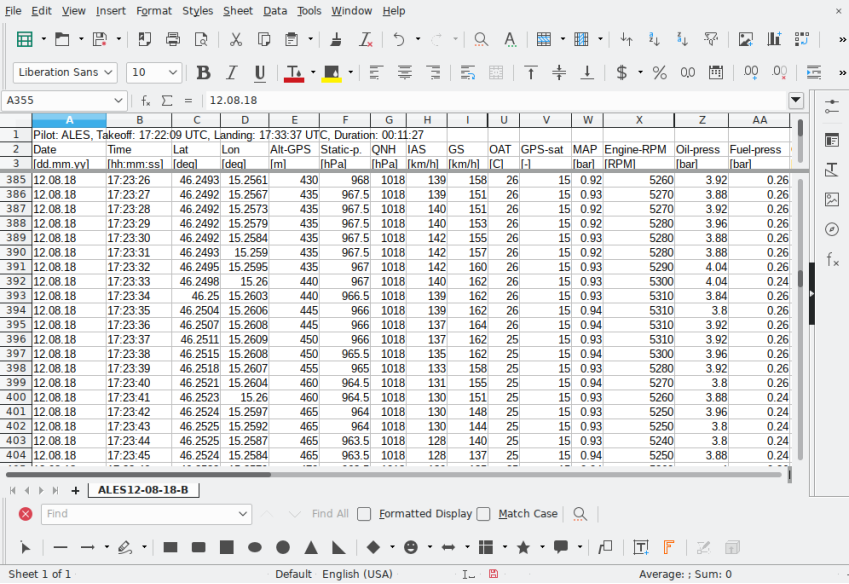

Figure 46: An example of flight details upon successful import. This figure is symbolic and your case will be different.
6. The result of the import is then shown in Figure 46. Some column widths were adjusted and some cells were hidden.
Please note that figure 46 is symbolic. Your case will be slightly different.